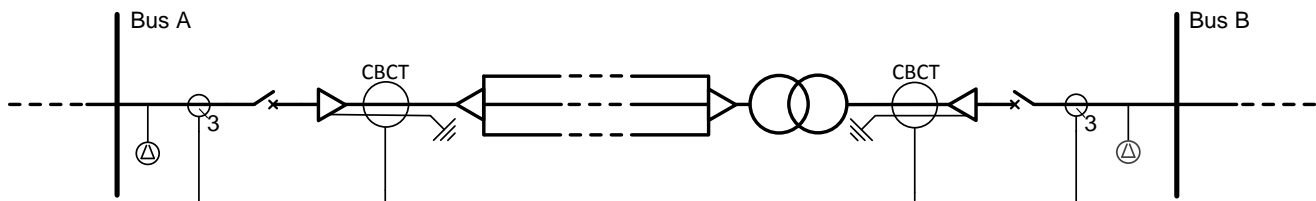

Figure 93: Simplified single-line diagram with power transformer in zone
The basic protection principle given in chapter Local end protection relay \(A\) for line differential protection is also valid when there is a power transformer in zone (example case 2). Figure 93 shows the single-line diagram of the line differential protection application example with a power transformer in zone. An 11 / 20 kV, 10 MVA transformer with impedance 6% is present in the protected zone of the isolated neutral system. The 20 kV side winding is earthed star (YN) and the 11 kV side winding is delta connected (d). The 20 kV side leads the 11 kV side by 30 degrees (clock number 11).